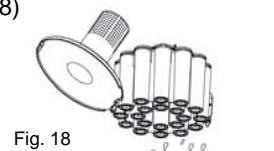

Fig. 18
3. Shake it a little and then open the bottom door to empty the dirty water. (Fig. 18)